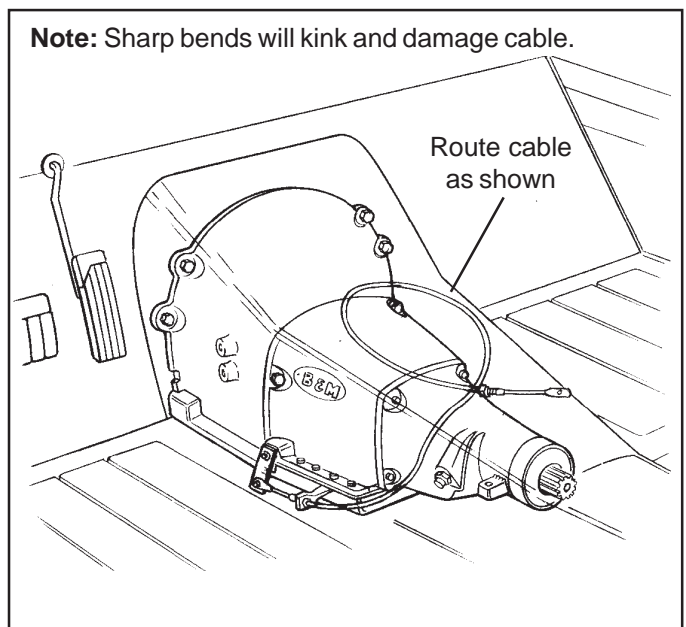

Figure 4
STEP 2. Disconnect the stock shifter cable then remove the cable bracket and the selector lever from the transmission (**See Figure 4**). Remove the shifter mechanism. Remove the shifter cable from the vehicle.
STEP 8. Route the shifter cable as shown in **Figure 4**. Avoid sharp bends that will kink and damage the cable.
STEP 11. Remove the two rubber boots, one large nut, and a large lockwasher from the threaded end of the shifter cable. Route the shifter cable according to Figure 4. Avoid sharp bends and route the cable away from hot engine exhaust parts. Use cable clamps or tie wraps to secure the cable housing to the chassis to avoid contact with exhaust system or moving driveline parts. Slide the end of the cable into the cable bracket, install the lockwasher and the large nut over the end of the cable. Position the cable so the threaded portion of the cable housing is centered in the cable bracket. Tighten both large nuts to hold the cable in this position. Install the two rubber boots onto the end of the cable.